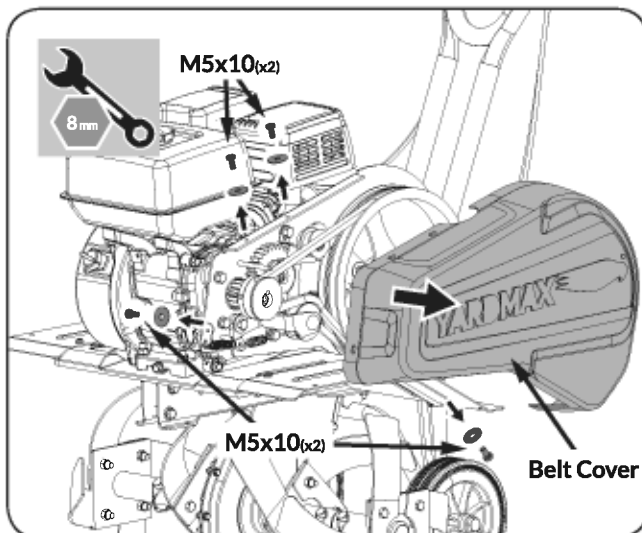

Figure 17
1. Remove the belt cover. (See **Figure 17**)